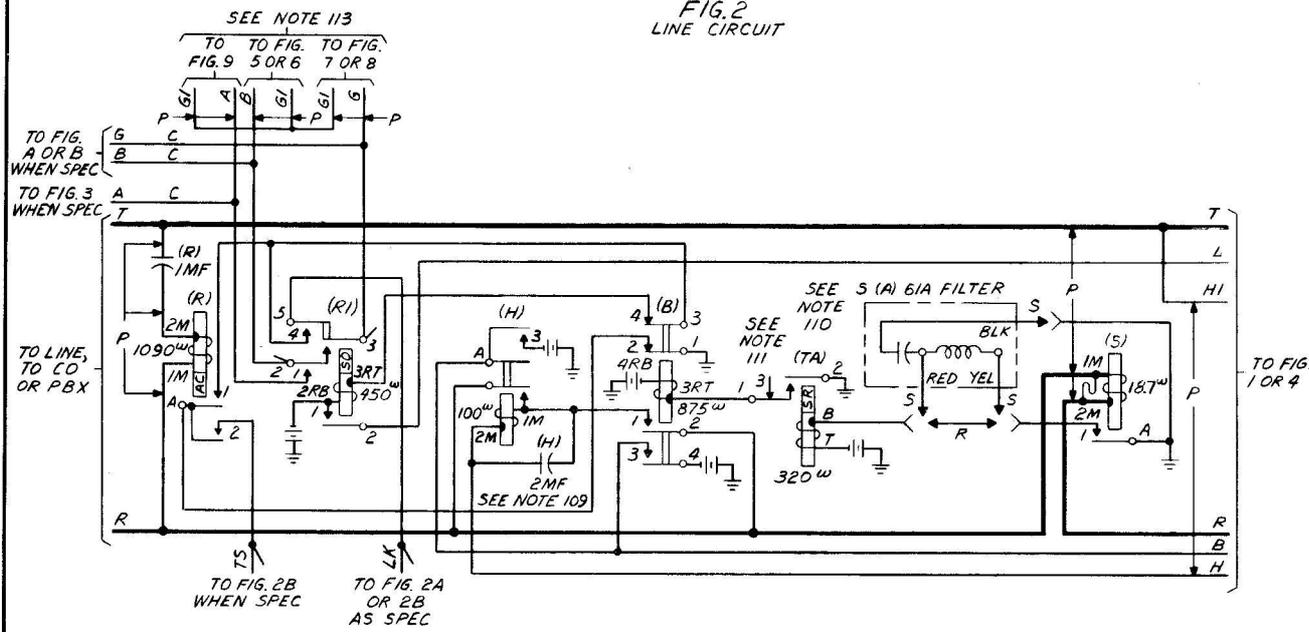

FIG. 2B
(B) PROVIDE ONE 2 AMP FUSE FOR EACH FIG. 2B.